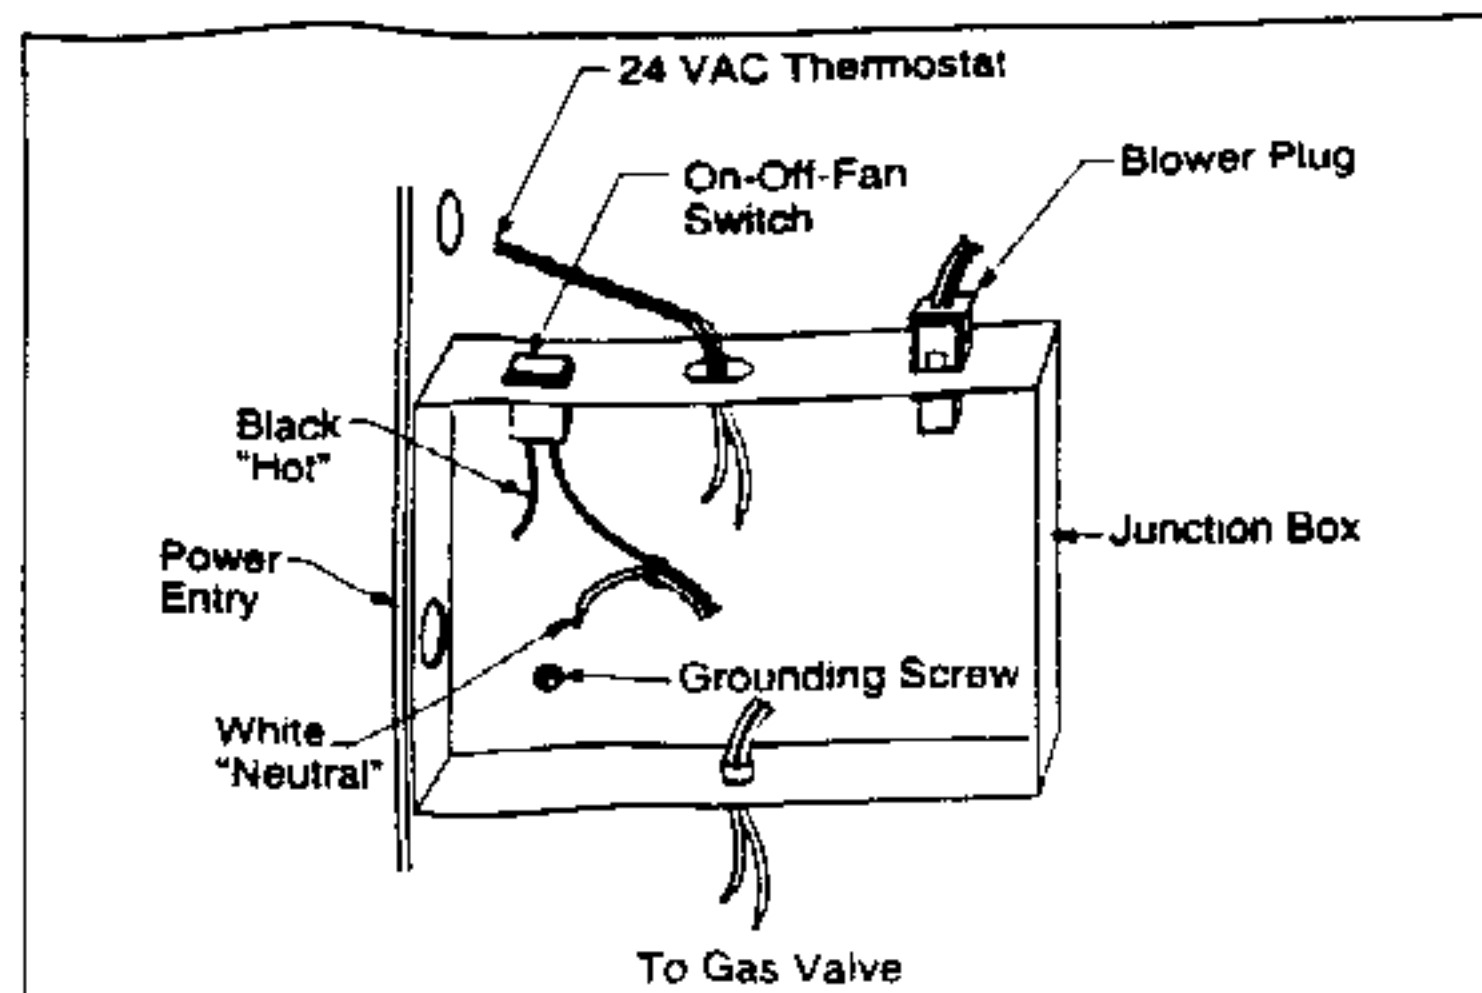

Figure 26. Control Panel (All Models)
- Insert 115 volt wires through the strain relief on the left side of the furnace junction box (see Figure 26).
- Connect the thermostat wires to the furnace low voltage pigtails (see Figures 26 & 27).
- For intermittent (thermostatically controlled) blower operation, place the On-Off-Fan switch in the "ON" position (see Figure 26).